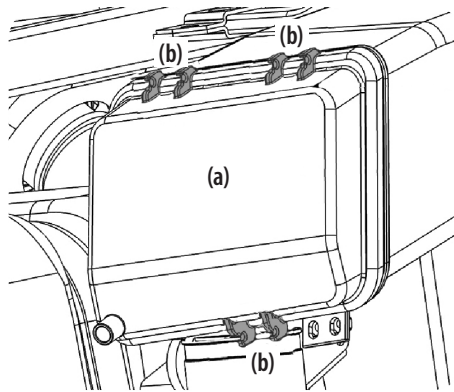

Figure 5-27
- Remove the air filter cover (a) from the three air filter cover holders (b). See Figure 5-27.